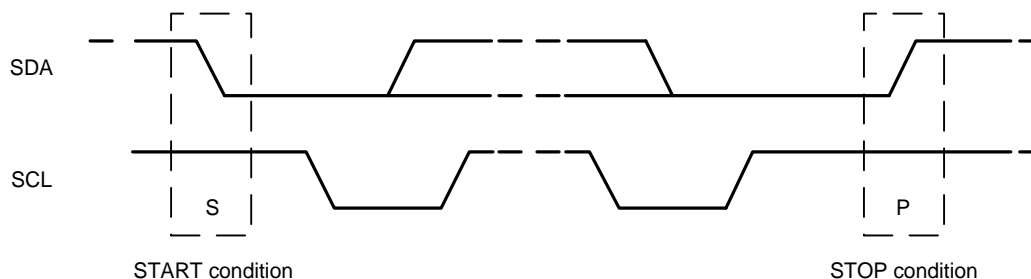

Figure 8. START and STOP Conditions
Communication on the I²C bus starts when the master puts the START condition (S) on the bus, which is defined as a HIGH-to-LOW transition of the SDA line while SCL line is HIGH (see figure below). The bus is considered busy until the master puts a STOP condition (P) on the bus, which is defined as a LOW to HIGH transition on the SDA line while SCL is HIGH (see Figure 8).